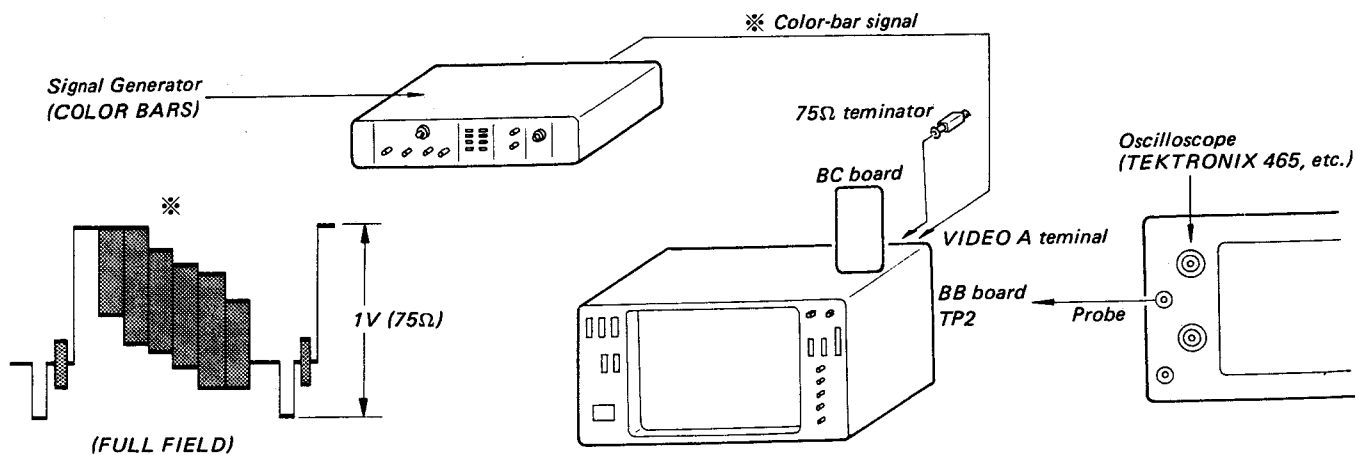

Fig. 5-122A.
1. Complete the connections as shown in Fig. 5-122A.